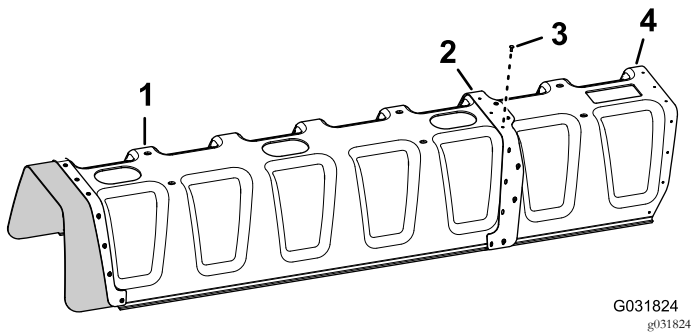

Figure 148
4. Secure the cover extension to the 11-nozzle section cover (Figure 148) with 11 pop rivets (Toro Part No. 114439).